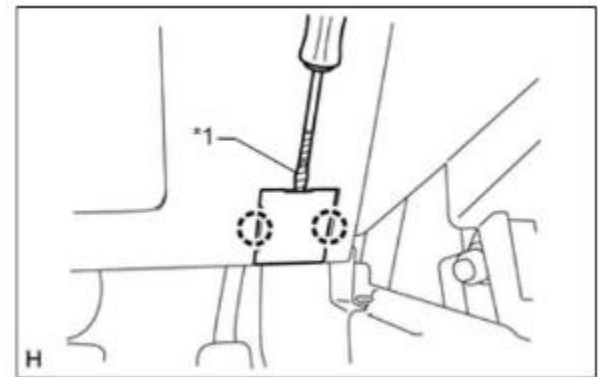

Figure 14
21. Remove Lower Instrument Panel Finish Panel Sub-assembly (Figure 14).